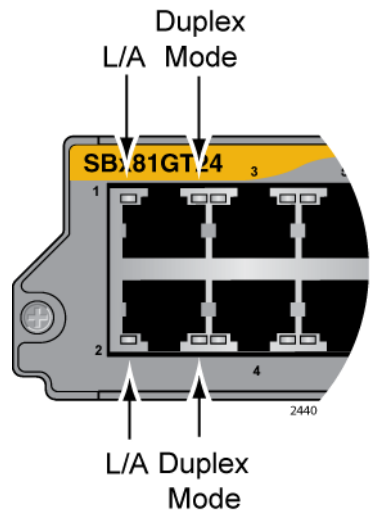

Figure 13. Port LEDs on the AT-SBx81GT24 Line Card
**LEDs** Each port on the AT-SBx81GT24 Line Card has two LEDs. The LEDs are shown in Figure 13 on page 38 and described in Table 7 on page 38.